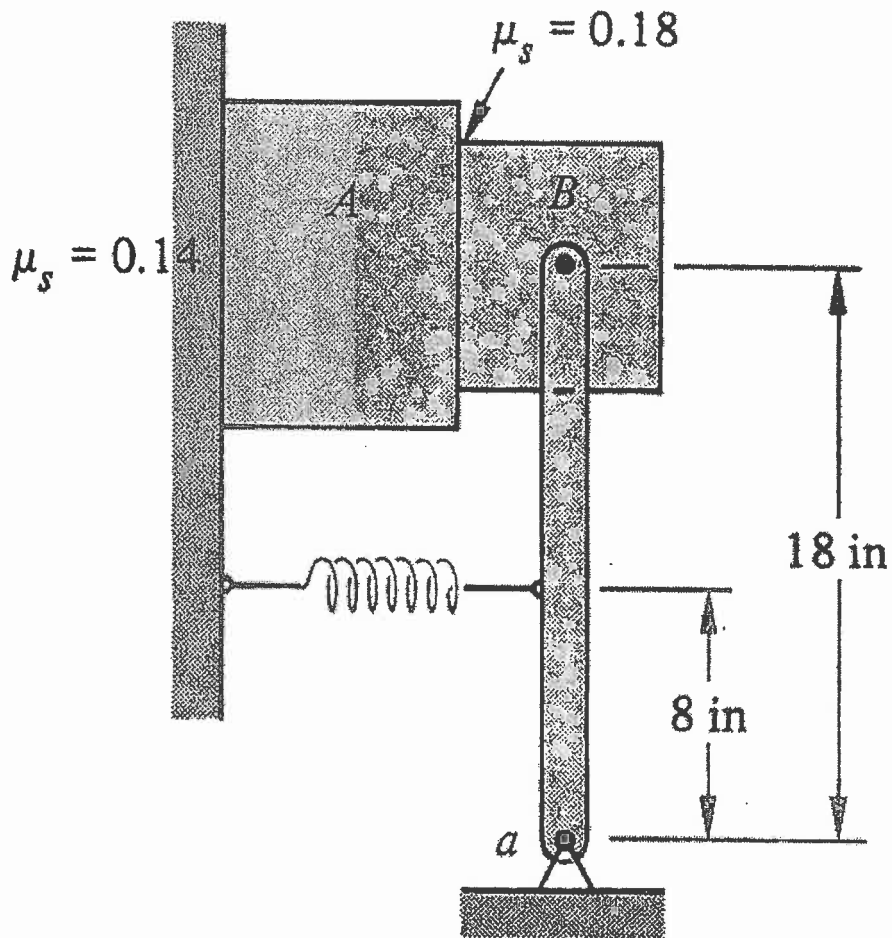

FIGURE 3.
- III. In figure 3, block *A* weighs 5 lb_f and block *B* weighs 3 lb_f.